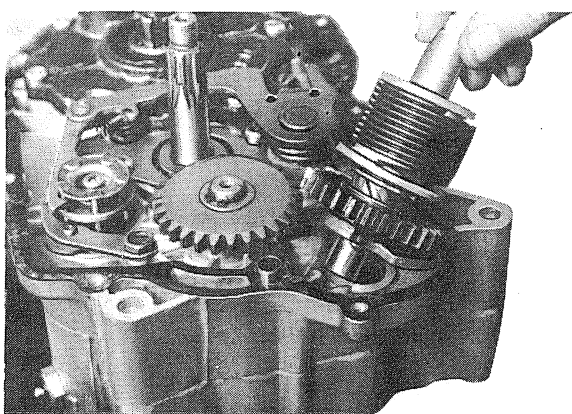

Fig. 3-10-6
- 2) Remove the kick starter assembly in the manner as shown in right. (Fig. 3-10-6)